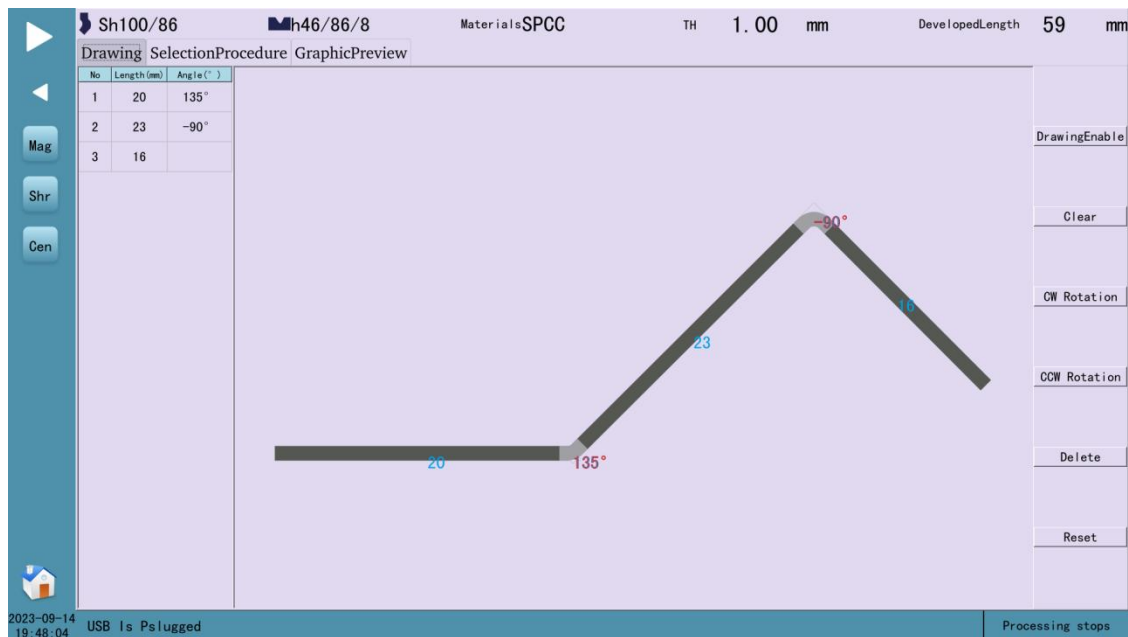

Figure 3-12:Initial Graphic Editing Screen
2、 Upon entering the product name and clicking "Confirm," you will be directed to the initial state of the Graphic Editing Screen, as depicted in Figure 3-12.